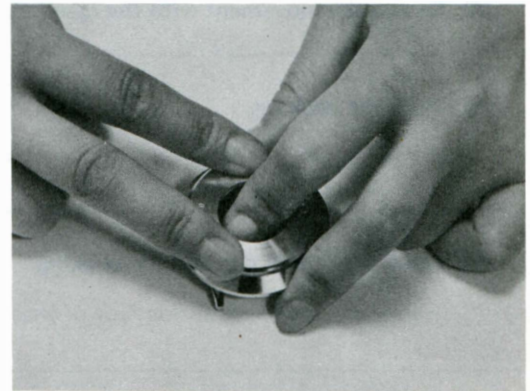

Fig. 7
- c. Push the upper endpiece down (Fig. 7).